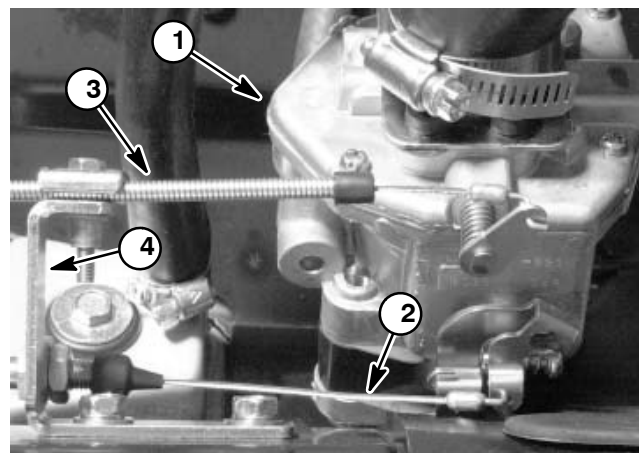

Figure 20
A. Choke and throttle cables from the carburetor and cable bracket (Fig. 20).
A. Choke and throttle cables to the carburetor and cable bracket (Fig. 20).